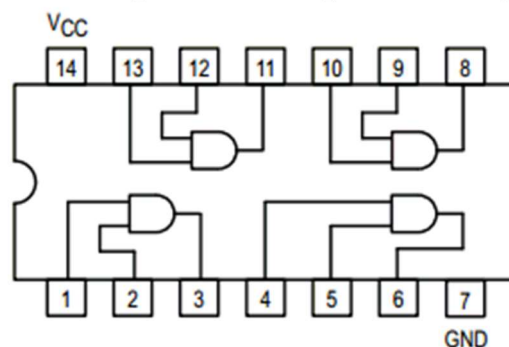

Fig 1.4: 74LS08 2-input AND gate IC pin configuration
In order to implement the AND operation using IC, the TTL 74LS08 2-input AND gate IC can be used. This IC contains four AND gates. It has 14 pin DIP configuration as shown in Fig 1.4:
- Pin Assignments for the ICs have been shown in fig 1.4